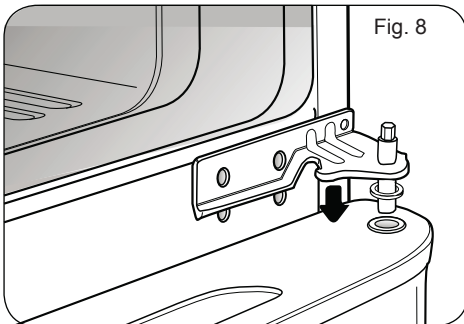

Fig. 8
- Place hinge pin of middle bracket inside the hinge pin insert on the top of the door (See Figure 8). Hold the door in place and line up the hinge with the holes in the refrigerator housing.